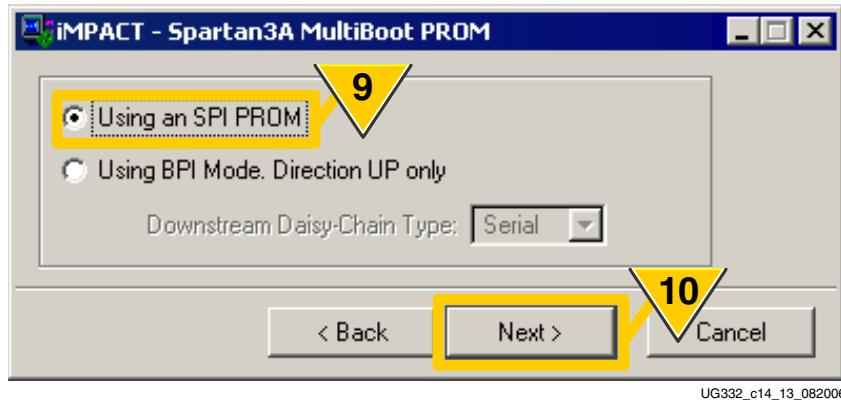

Figure 14-14: SPI or Parallel Flash PROMs are Supported
9. As shown in Figure 14-14, choose whether to create an Extended Spartan-3A family MultiBoot image for SPI serial Flash or for parallel NOR Flash, using BPI mode. This example uses an SPI PROM.